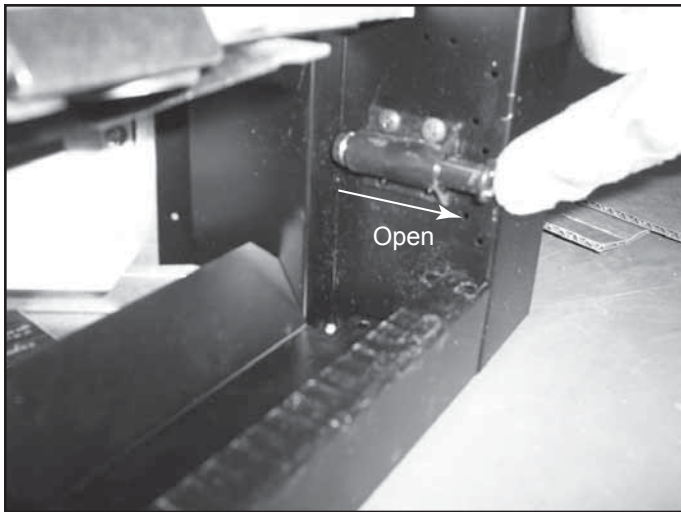

Figure 14.11 Magnetic Touch Latch Open
- Make sure the screen magnetic touch latches are in the open position. See Figure 14.11.